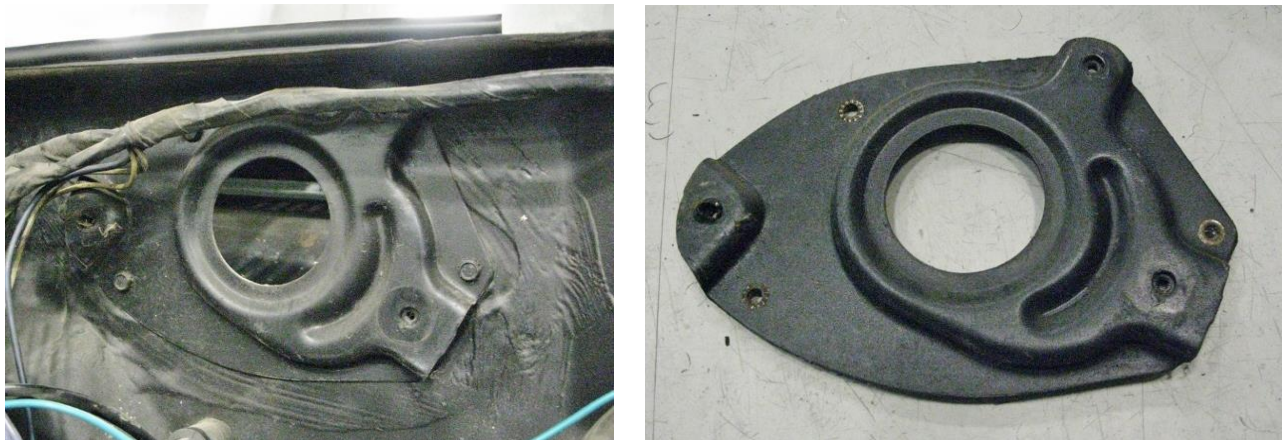

Figure 1 - Remove Factory Mounting Plate
2. Disconnect the wiper linkage from the wiper motor pitman arm and remove the stock wiper motor from the firewall. **NOTE:** For the Can style wiper motors, the factory mounting plate must also be removed from the firewall (Figure 1).